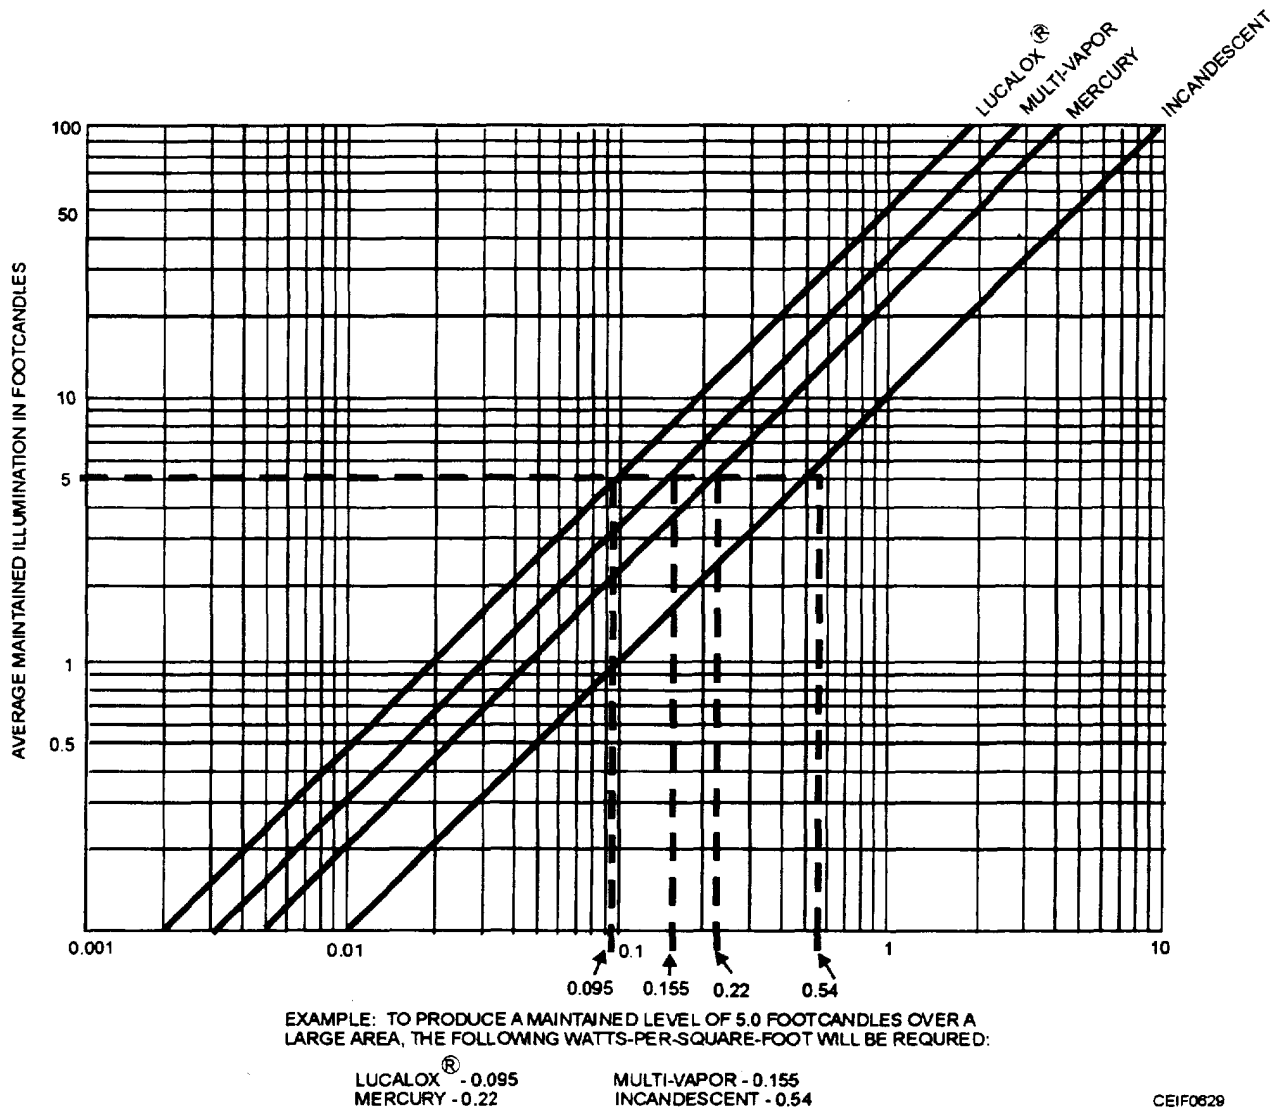

Figure 6-29.—Lamp watts per square foot chart.
Another design method that will yield sufficient accuracy is the quick selector design method. The general layout considerations shown in figure 6-28 should be followed. The watts per square foot obtained from the graph in figure 6-29 produce an average lighting level accurate to within 20 percent of desired value. That is close enough, since the difference between the luminaire requirement obtained from the graph and the number that will actually be needed to satisfy the physical requirements of the job involve adjustments greater than 20 percent. It is not unusual, for instance, to need two poles instead of one or to require three luminaries per pole instead of two. This calculation method should not be used for sports lighting or where the poles are set back from the area to be lighted.
2. Read up the left side of the graph in figure 6-29 until you come to 5. Follow this line across until you intersect the dark diagonal line representing Lucalox[®].
4. Area to be lighted is (160)(160) = 25,600 square feet.